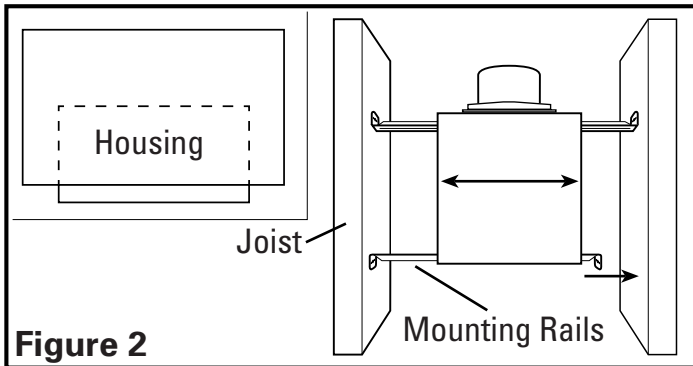

Figure 2
1. Install the rails on the housing and position the housing next to the joist. Line up housing so that it will be flush with the finished ceiling. Secure the ends of the rails with screws or nails (not included) to the joists and slide the housing into the final position (**Figure 2**).